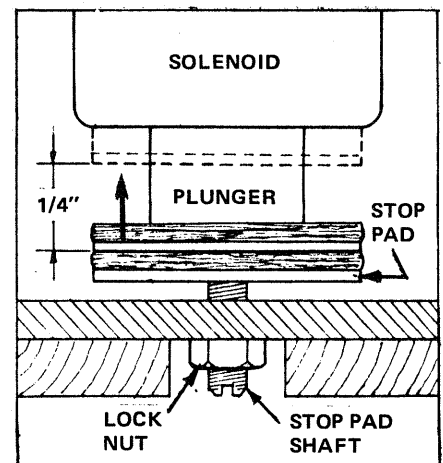

FIGURE 9-27 Solenoid stroke measurement.
- E. If the SUSTAIN L.E.D. was lit when the unit played Program 9, but the Solenoid did not appear to be working, check the operation of the Solenoid at this time. If it does operate, verify that its stroke is 1/4" (see FIGURE 9-27) and, if necessary, adjust the stroke by following Procedure F on the next page. If the Solenoid does NOT operate, refer to Section 10, TROUBLE ANALYSIS, for system repair procedures.